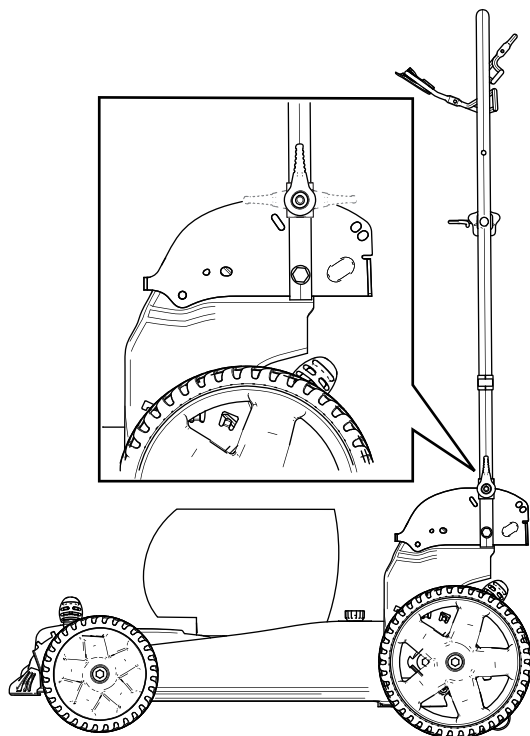

Figure 21
4. Fold the handle forward either to the vertical position or the fully forward position as shown in Figure 21.